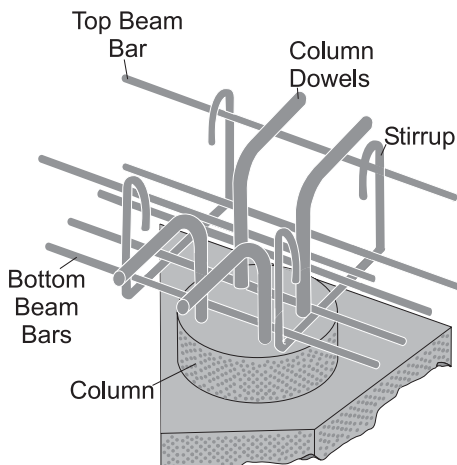

Figure 1. Columns
REBAR BENDING APPLICATIONS (Figures 1 thru 4)
- 90° rebar (Figure 1) at top of column can be bent after forms have been removed